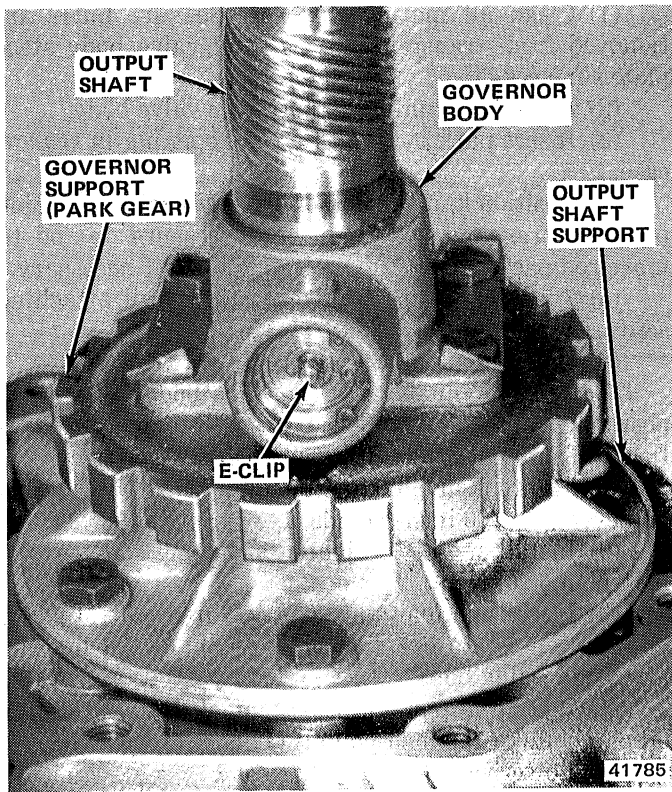

Fig. 2C-24 Governor Weight E-Clip Location
- (1) Raise vehicle.
- (2) Mark propeller shaft yokes for assembly alignment reference.
- (3) Disconnect front-rear propeller shafts at transfer case.
- (4) Disconnect speedometer cable at transfer case.
- (5) Place support stand under transmission converter housing.
- (6) Remove rear crossmember.
- (7) Disconnect parking brake cable at equalizer and disconnect exhaust pipe support brackets, if necessary.
- (8) Remove bolts attaching transfer case to transmission adapter housing and remove transfer case.
- (9) Remove bolts attaching adapter housing to transmission and remove adapter housing.
- (10) Rotate transmission output shaft until governor weight faces downward (fig. 2C-24).
- (11) Remove E-clip from weight end of governor valve shaft (fig. 2C-24).